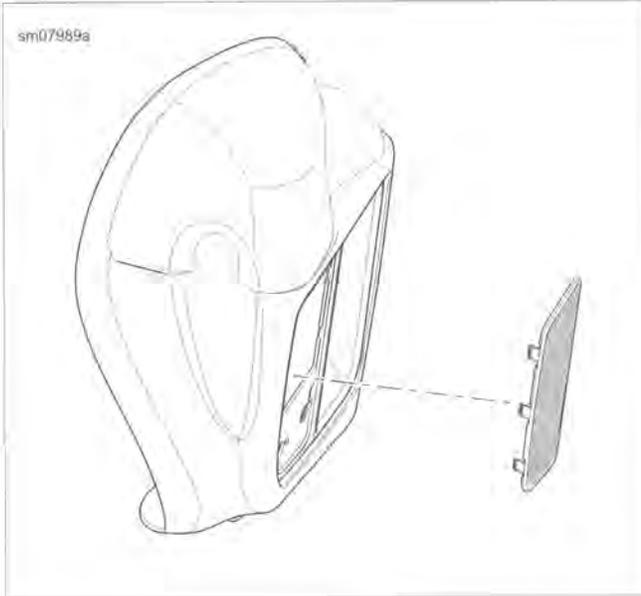

Figure 1-7. Lower Fairing Grille Panel
1. See Figure 1-7. Remove outer grille from lower fairing.